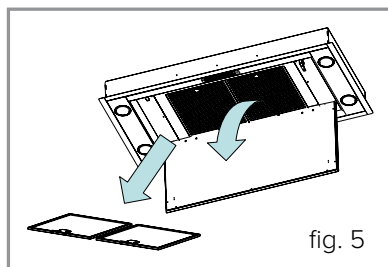

fig. 5
1. Open the decorative cover panel and remove the two grease filters (fig. 5).